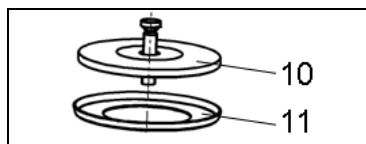

Fig. 7: Orientation of piston seal (11) in relation to retainer plate (10)
1. Hold the connecting rod (15) from the front through the fan opening, and replace the cylinder (14) on the pump housing.
2. Lay new O-ring (13) on cylinder (14).
- a. Lay the new piston seal (11) on the retainer plate (10).
i For orientation of piston seal (11) see fig. 7.
- b. Push the new countersunk screw (9) through the retainer plate (10).
4. Slide "piston assembly" (consisting of retainer plate (10), piston seal (11) and countersunk screw (9)) into the cylinder (14) from the top and place on connecting rod (15).